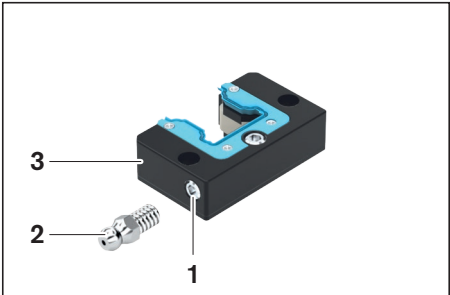

Fig. 1
- ▶ Remove the set screw from the lube hole (Fig. 1, item 1) and keep it ready for later use.
- ▶ Screw in the lube nipple (2).
- ▶ Lay the front lube unit (3) down flat and fill with the amount of oil according to table 1; leave for about 36 hours.